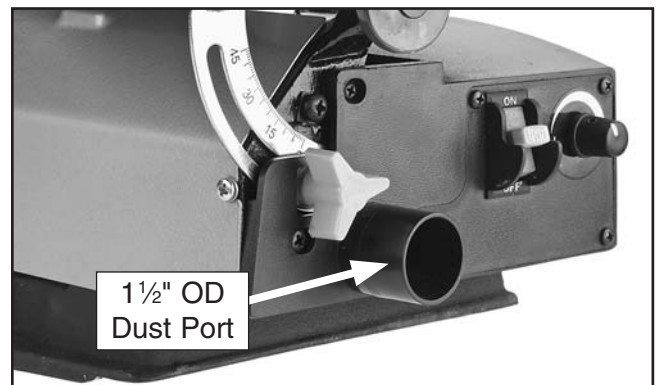

Figure 11. Dust port.
7. Fit a shop vacuum hose over the dust port (**Figure 11**) and secure it in place with a hose clamp.